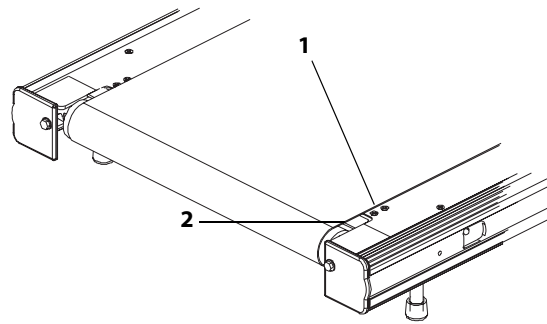

Figure 4-2: Roller Guard
6. Check the position of the rear roller guards and adjust if necessary (see Figure 4-2).
5. Check the position of the rear roller guards and adjust if necessary (see Figure 4-2).
Check the position of the rear roller guards each time you readjust the belt tracking or the belt tension. The roller guards are located at the rear of the treadmill between the rear roller and the deck (see Figure 4-2).